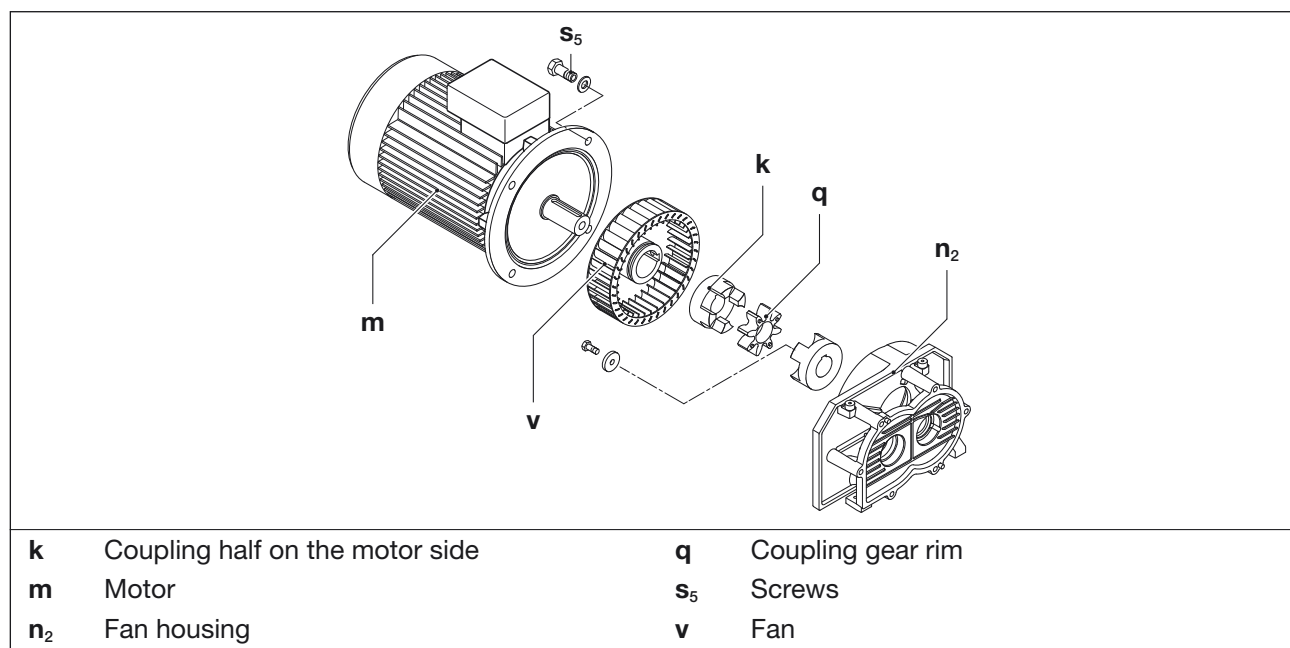

Fig. 8 Coupling
The coupling sprocket (Fig. 8/q) is subject to wear and must be checked regularly (at least 1 x per year). The fan (Fig. 8/v) should also be checked for damage from time to time.
- b) Hook the motor (fig. 8/m) in the eyebolts and lift it by means of lifting gear. If no eyebolts exist, suspend the Motor with round loops.
- c) Release the screws (Fig. 8/s₅) on the motor flange and axially pull the motor with the half of the coupling on the motor side (Fig. 8/k) off the fan housing (Fig. 8/n₂).
- d) Check the sprocket (Fig. 8/q). If the sprocket is damaged or worn, replace it.
- e) Check the fan (Fig. 8/v) and replace it, if necessary.
- f) Axially push on the gear rim and motor with coupling half on the motor side again and fix to the motor flange using the screws (Fig. 8/s₅). Tightening torque: 84 Nm